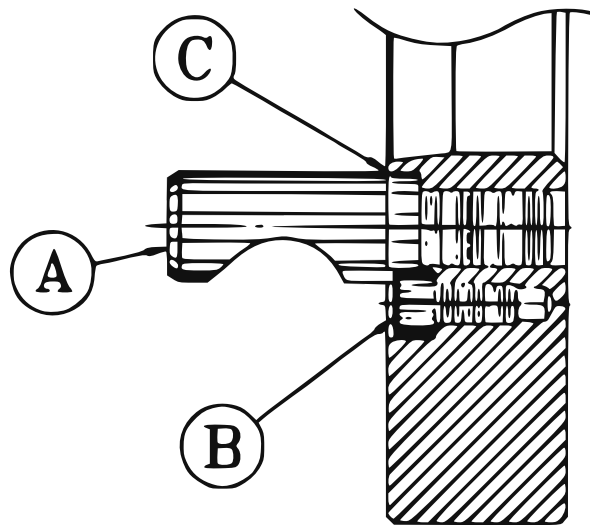

Figure 3-6: Camlock stud
Before you fit a chuck or faceplate, make sure that the spindle and chuck tapers are scrupulously clean and that all cams lock in the correct positions. When you mount a new chuck, you may need to reset the camlock studs (A), as shown in Figure 3-6.
- 1 Remove the cap-head locking screws (B).
- 2 Set each stud so that the scribed ring (C) is flush with the rear face of the chuck, with the slit lined up with the locking screw hole (see Figure 3-6).